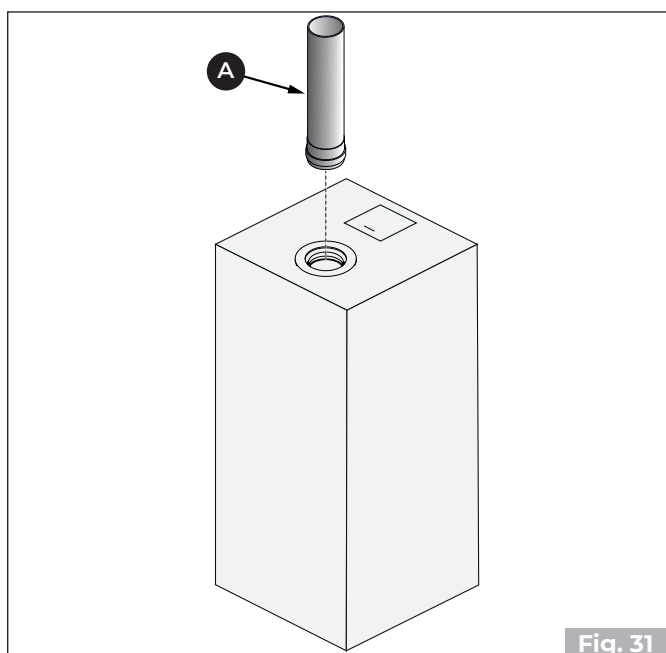

Fig. 31
- Connect the flue gas outlet pipe **(A)** (**"Fig. 31"**).